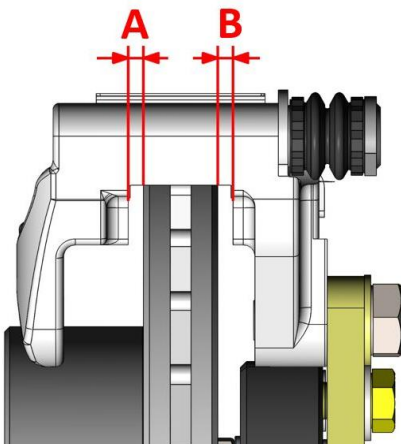

Figure 6a – Caliper Anchor Bracket Measuring Location
9. Depending on original manufacturing tolerances, shimming of the Caliper Anchor Bracket may be required. To determine if shimming is necessary, measure between the Caliper Anchor Bracket and the brake rotor at both the outside and inside surface. See Figure 6a below for the measuring locations. Both measurements should be within .010" of each other. If they are not, using Figure 6b below for an example, calculate the necessary shim thickness. Remove the four 3/8"-24 x 1.250" Grade 8 Hex Head Bolts and place the appropriate shims between the Primary Caliper Mounting Bracket and the Secondary Caliper Mounting Bracket. Figure 6c below shows the proper location of the shims. With the shims installed and the Caliper Anchor Bracket centered over the rotor, torque the 3/8"-24 x 1.250" Grade 8 Hex Head Bolts to 40 lb/ft.